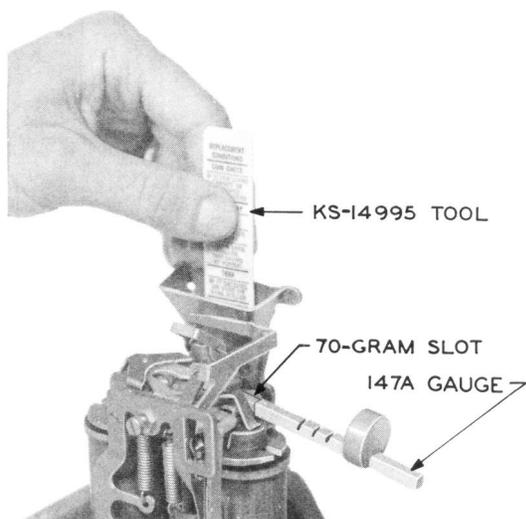

Fig. 7 - Trap and Vane Release Test
- (1) Remove shield from relay.
- (2) Apply slot 70 of 147A gauge to right rear horizontal portion of relay operating arm. Make sure that enclosed end of slot is against edge of operating arm and that weight on gauge is positioned up, as shown in Fig. 7.
- (3) Press down on 147A gauge to operate relay and vane to limits of their travel.
- (4) Insert KS-14995 coin collector tool into throat of hopper to operate trap to the limit of its travel. Hold in place as shown in Fig. 7.
- (5) Release pressure on 147A gauge.
- (6) Slowly withdraw KS-14995 tool. Take at least 5 seconds.
- (7) Be sure that vane and relay return to their unoperated positions.
- (8) Make test three times with gauge on right (collect) side and three times on left (refund) side.